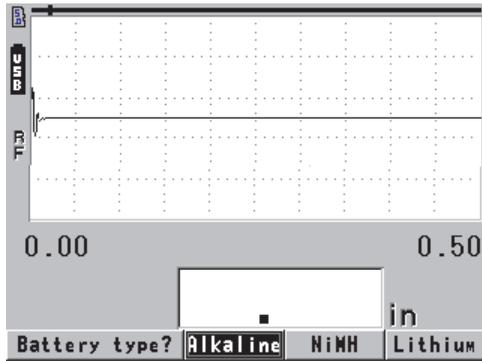

Figure 2-4 Selecting the battery type
12. To answer the question appearing at the bottom of the screen (see Figure 2-4 on page 29):